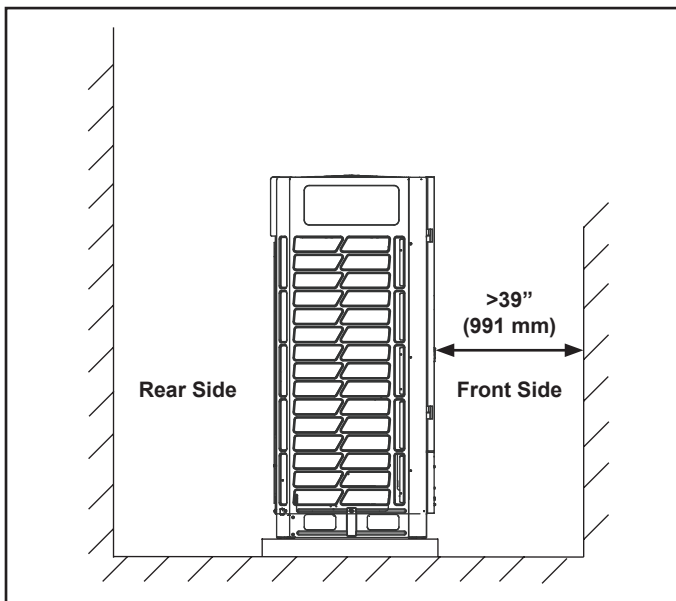

Figure 2. Maintenance & Service Clearance
- Allow at least 39 in. (991 mm) clearance in front of the unit for maintenance and service access. The outdoor unit service access is via hinged service doors that swing open in front of the unit. Figure 2.